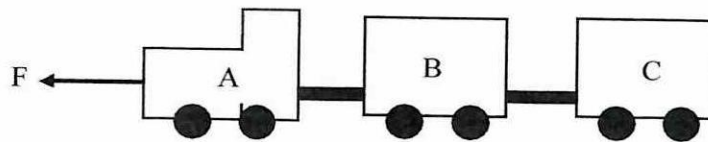

Figure Q4.1
- (c) **Figure Q4.1** shows three toy cars, labeled as A, B, and C, each having masses of $m_A = 0.1$ kg, $m_B = 0.2$ kg and $m_C = 0.3$ kg, are linked together and subjected to a horizontal force of $F=3$ N. Assuming no friction, calculate the following: